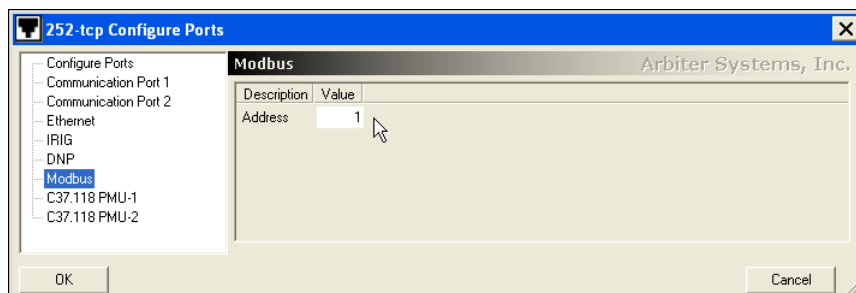

Figure 7.8: Configuring MODBUS Settings
2. After selecting the protocol for the port, select the Modbus item on the left panel. Choose the Address value (See Figure 7.8) and click OK.